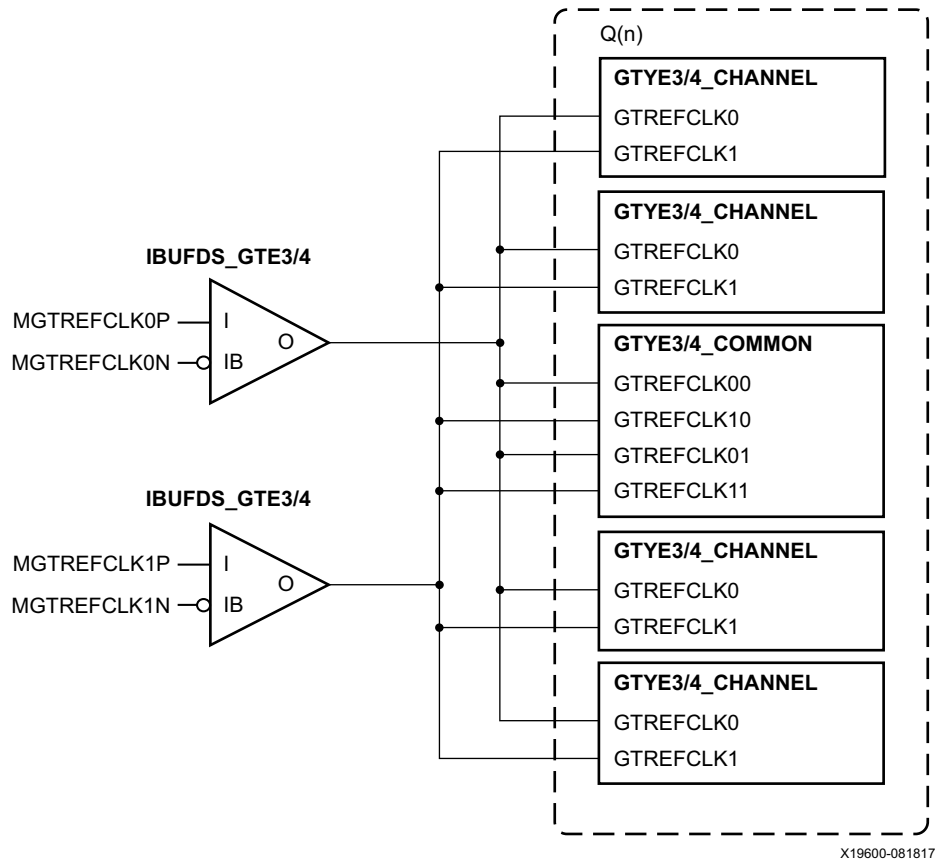

Figure 2-8: Multiple GTY Transceivers with Multiple Reference Clocks in a Single Quad
Figure 2-8 shows the QPLLs of each Quad and the CPLL of each transceiver can be sourced by either MGTREFCLK0[P/N] or MGTERCLK1[P/N] within a single Quad. Users can set QPLL0/1REFCLKSEL[2:0] and CPLLREFCLKSEL[2:0] to the corresponding values to select the source of the reference clock.
**Note:** The IBUFDS\_GTE3/4 diagram in Figure 2-8 is a simplification. The output port ODIV2 is left floating, and the input port CEB is set to logic 0.